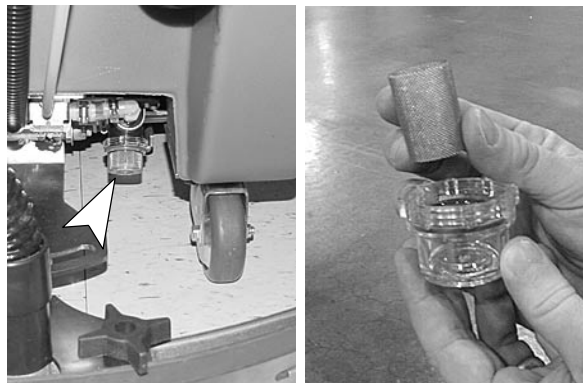

FIG. 40
- Remove the solution tank filter and rinse out. Before removing filter, be certain solution tank is empty. Filter is located under machine at rear (Figure 40).